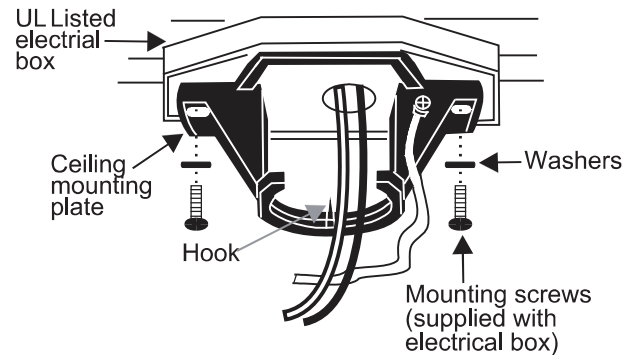

Fig.8
Step 1 Pass the 120-volt supply wires through the center hole in the ceiling hanger bracket as shown in (Fig.8).
2. Pass the 120-volt supply wires through the center hole in the ceiling hanger bracket as shown in(Fig. 8)
3. Secure the hanger bracket to the ceiling outlet box with the screws and washers provided with your outlet box.(Fig. 8)